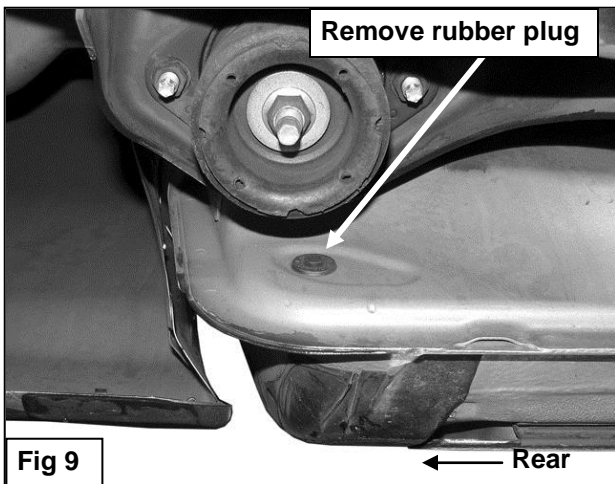
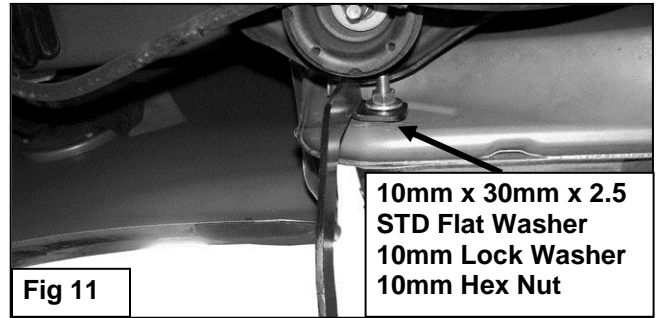

Fig 9
**Fig 10B**
6. Move to the very end of the cab. Locate and remove the rubber plug in the side of the inner body panel, **(Figure 9)**. Select (1) 10mm Bolt Plate and (1) Plastic Retainer, **(Figure 10B)**. Insert the Bolt Plate into the hole and thread the Plastic Retainer down onto the Bolt Plate until it is tight against the body panel, **(Figure 10A)**. **NOTE:** The Plastic Retainer is designed to prevent the Bolt Plate from falling into the body panel and to aid Support Bracket installation. Select (1) 10mm x 27mm Thick Flat Spacer Washer and slide it onto the threaded end of the Bolt Plate over the Retainer, **(Figure 10A)**. Next, secure the driver side Rear Support Bracket to the Bolt Plate with (1) 10mm x 30mm x 2.5mm Flat Washer, (1) 10mm Lock Washer and (1) 10mm Hex Nut(GOLDEN), **(Figure 11)**. Snug but do not fully tighten hardware at this time.